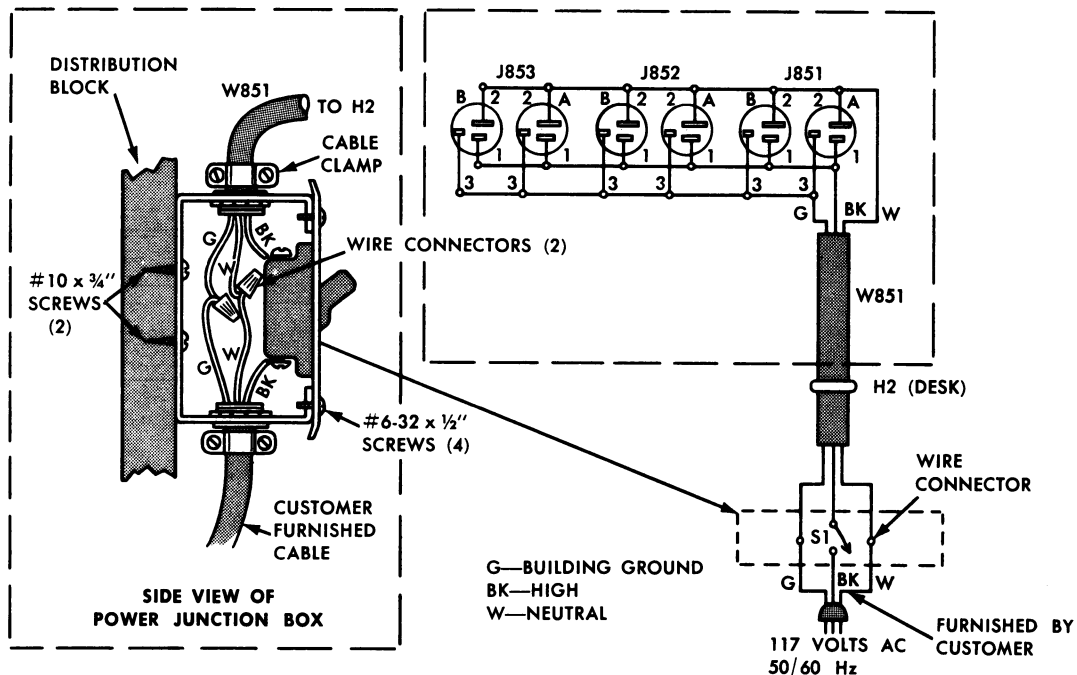

Figure 4 - Power Cable and Junction Box Installation
6. Install the cable clamp in the hole at the top of the junction box. Connect three-wire power cable (routed from the console turret through H2 in the desk) to the power junction box as shown in Figure 4.